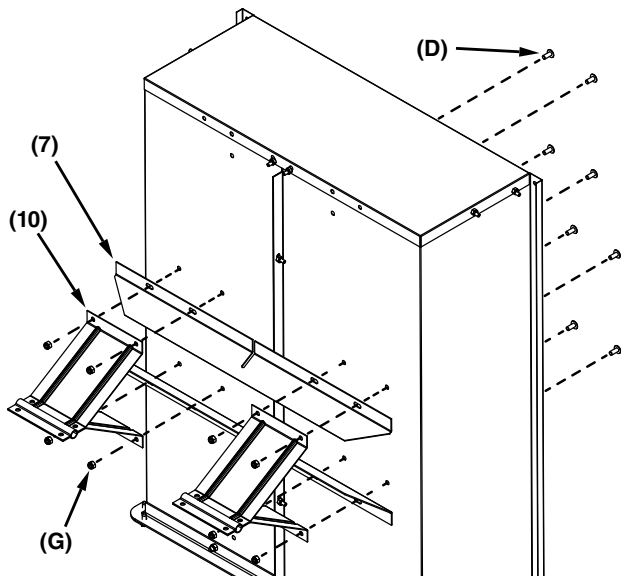

Figure 9
STEP 10 (SEE FIGURE 9): Attach the bed supports (7) to the cart and attach the wheel supports (10) to the bed supports (7) using eight 5/16" x 3/4" truss head bolts (D) and 5/16" nylock nuts (G).